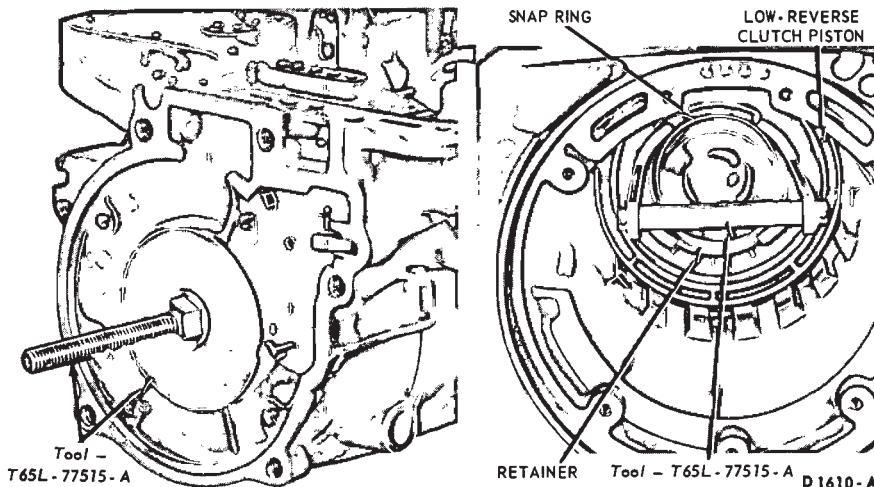

FIG. 29—Compressing Reverse Clutch Springs
19. Compress the reverse clutch piston release spring with tool T65P-77515-A (Fig. 29). Remove the snap